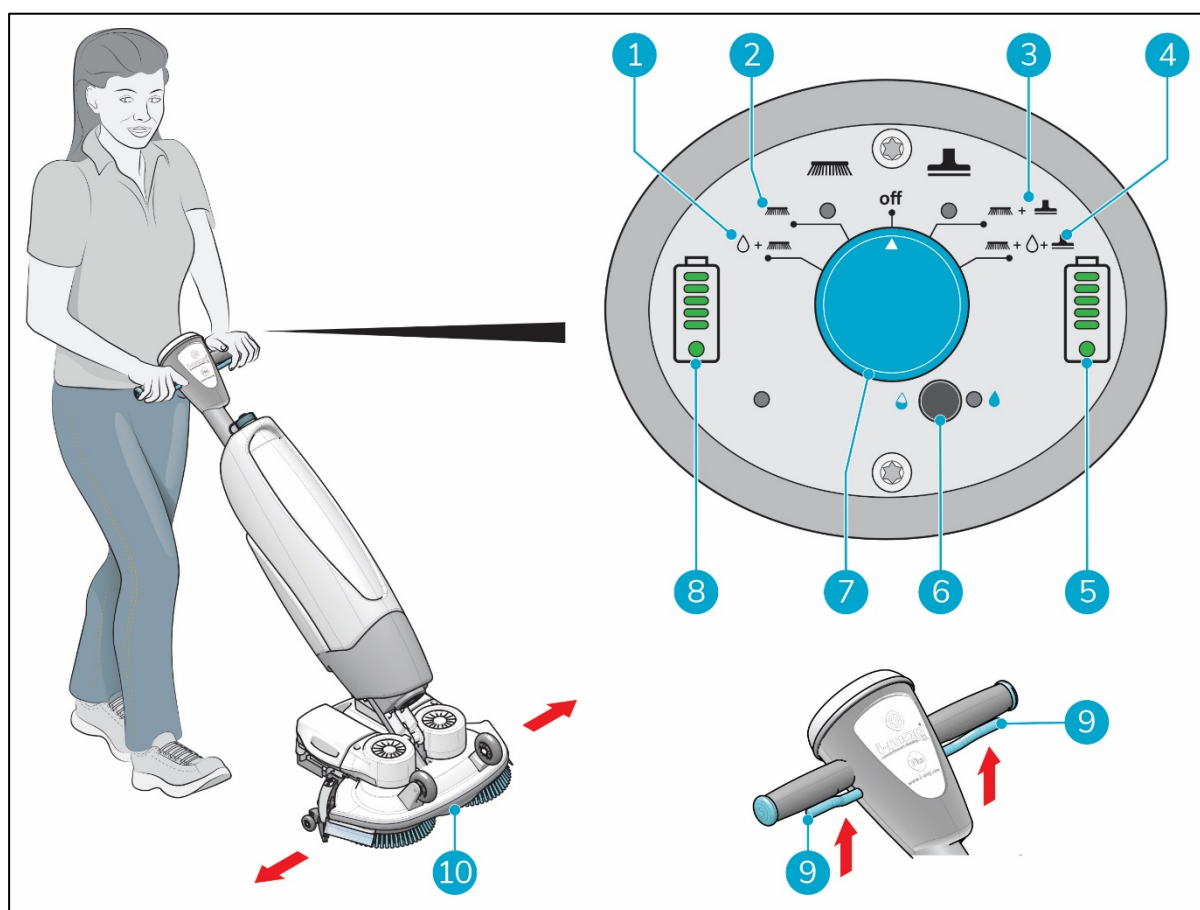

Figure 17
5. Choose your cleaning mode via the main switch (Figure 17, pos 7). This will also turn on the i-mop XL Plus.
- MODE 1: Brush + water/cleaning solution (Figure 17, pos 1).
- MODE 2: Brush only (Figure 17, pos 2).
- MODE 3: Brush + vacuum (Figure 17, pos 3).
- MODE 4: Brush + water/cleaning solution + vacuum (Figure 17, pos 4).
7. Squeeze the trigger on the handle (Figure 17, pos 9).
10. Steer by gently turning the handle left or right to move the scrub deck (Figure 17, pos 10).
11. Releasing the trigger (Figure 17, pos 9) will immediately stop the i-mop XL Plus. The vacuum motor will stop after 3 seconds.